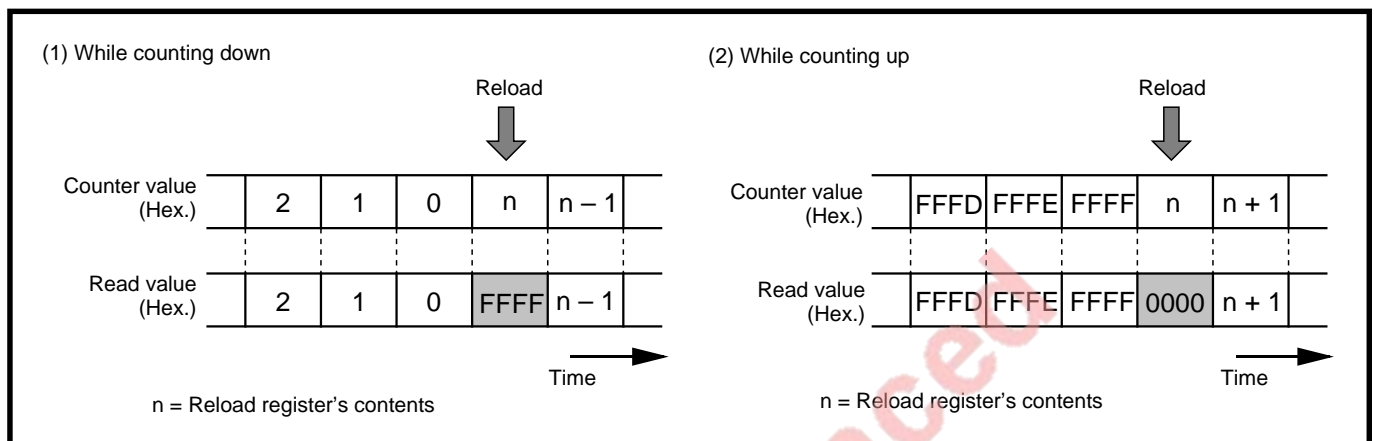

Fig. 6.4.11 Timer Ai register read out
1. While counting is in progress, by reading out the timer Ai register, the counter value can be read at an arbitrary timing. However, when reading is performed at the reload timing shown in Figure 6.4.11, value "FFFF16" is read out at an underflow and value "000016" is read out at an overflow. If reading is performed in the period from when a value is set into the timer Ai register with the counter stopped until the counter starts counting, the set value is correctly read out.